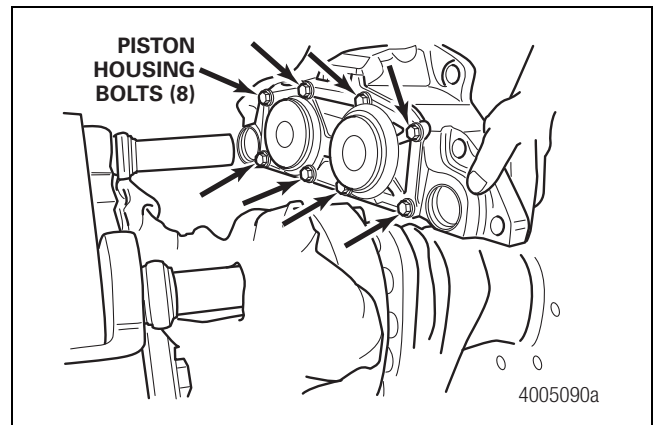

Figure 5.23
3. Carefully remove the housing assembly from the slide pins. The assembly is not serviceable. Do not attempt to tighten or loosen the eight piston housing bolts. Figure 5.23.